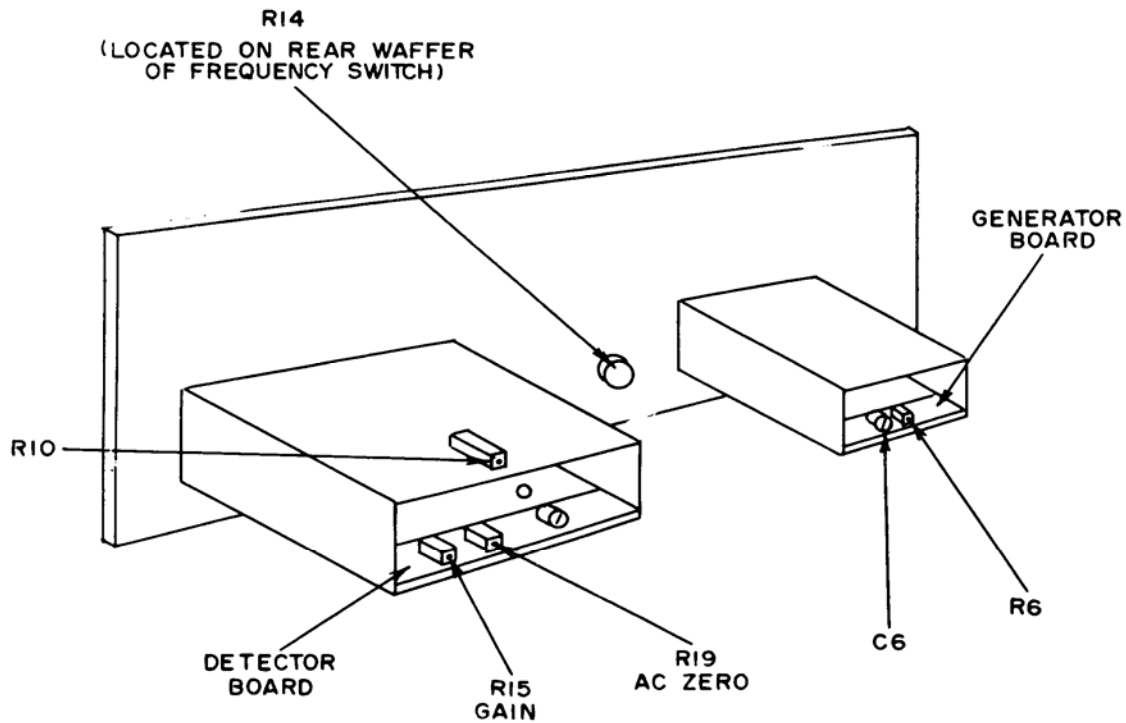

Figure 6. Model 865A - rear internal view.
- (1) **FREQUENCY** switch to **DC**.
- (2) **GENERATOR ON/OFF** switch to **OFF**.
- (3) **GENERATOR ± Polarity** switch to **+** (positive)
- (4) **GENERATOR POWER LIMIT** control to 0 (zero).
- (5) **DETECTOR SENSITIVITY HIGH/LOW** switch to **HIGH**.
- (6) **DETECTOR SENSITIVITY** control fully cw.
- (7) **DETECTOR ZERO** control on midrange.
- (8) **DETECTOR LOG/LIN** switch to **LIN**.
- g. If TI meter does not indicate 0 (zero) adjust R10 (fig. 6) for a 0 (zero) indication.
- i. Set **DETECTOR SENSITIVITY HIGH/LOW** switch to **LOW**. If TI meter does not indicate 0 (zero), adjust R19 AC ZERO (fig. 6) for a 0 (zero) indication.
- j. Repeat **d** (5) and (6) and **g** through **i** above until TI meter indicates 0 (zero) in **g** and **i**.
- (1) Set **FREQUENCY** switch to **1 kHz** and rotate **GENERATOR POWER LIMIT** control fully cw.
- (2) Connect multimeter and frequency counter to **TI GENERATOR AC OUTPUT** terminals **1** and **2**.
- (3) Set **GENERATOR ON/OFF** switch to **ON**. If multimeter does not indicate at least 6 V ac, perform **b** (1) below. If frequency counter does not indicate between 990 and 1,010 Hz (hertz), perform **b** (2) below.
b. Adjustments (fig. 6)
- (1) Adjust **R6** for a 6 V ac indication on multimeter (R).
- (2) Adjust **C6** for a 1 kHz indication on frequency counter (R).
- (1) Press **ON/OFF** pushbutton to **OFF** and adjust **DETECTOR SENSITIVITY** control to midrange.
(2) Connect fixed resistor directly across TI **GENERATOR AC OUTPUT** terminals **1** and **2**.
(3) Connect TI **GENERATOR AC OUTPUT** terminal **2** to TI **DETECTOR AC INPUT** terminal **2**.
(4) Press **ON/OFF** pushbutton to **ON**. Adjust R14 (fig. 6) until meter indicates null (low point, not zero).
(5) Set **GENERATOR** \pm polarity switch alternately between **+** (positive) and **-** (negative). If TI meter indication is not within one minor division in either position, perform **b** below.
b. Adjustments (fig. 6). Set **GENERATOR** \pm polarity switch alternately between **+** (positive) and **-** (negative) while adjusting R14 for same TI meter indication in either position.
(1) Connect function/arbitrary generator 50-ohm output terminal to TI **DETECTOR AC INPUT** terminals **1** and **2**, using cable and termination.
(2) Adjust function/arbitrary generator controls for a 100 μ V output with frequency at 1 kHz.
(3) Set **DETECTOR SENSITIVITY HIGH/LOW** switch to **HIGH** and rotate **DETECTOR SENSITIVITY** control fully cw. If TI meter does not indicate full scale, perform **b** below.
(4) Set **DETECTOR SENSITIVITY HIGH/LOW** switch to **LOW**.
(5) Adjust function/arbitrary generator controls for a 10 mV output. TI meter will indicate full scale or near full scale.
b. Adjustments. Adjust R15 **GAIN** (fig. 6) for a full-scale indication on TI meter.